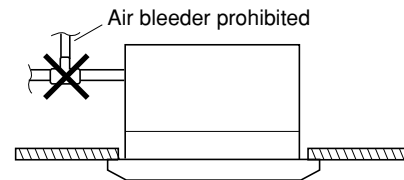

Fig. 3-39
- **Do not install an air bleeder as this may cause water to spray from the drain pipe outlet. (Fig. 3-39)**